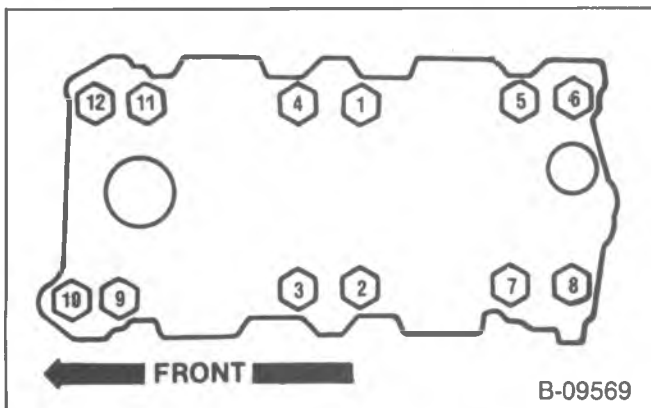

Figure 9—Intake Manifold Bolt Tightening Sequence
- Intake manifold bolts to 48 N·m (35 ft. lbs.). Use the tightening sequence shown in figure 9.